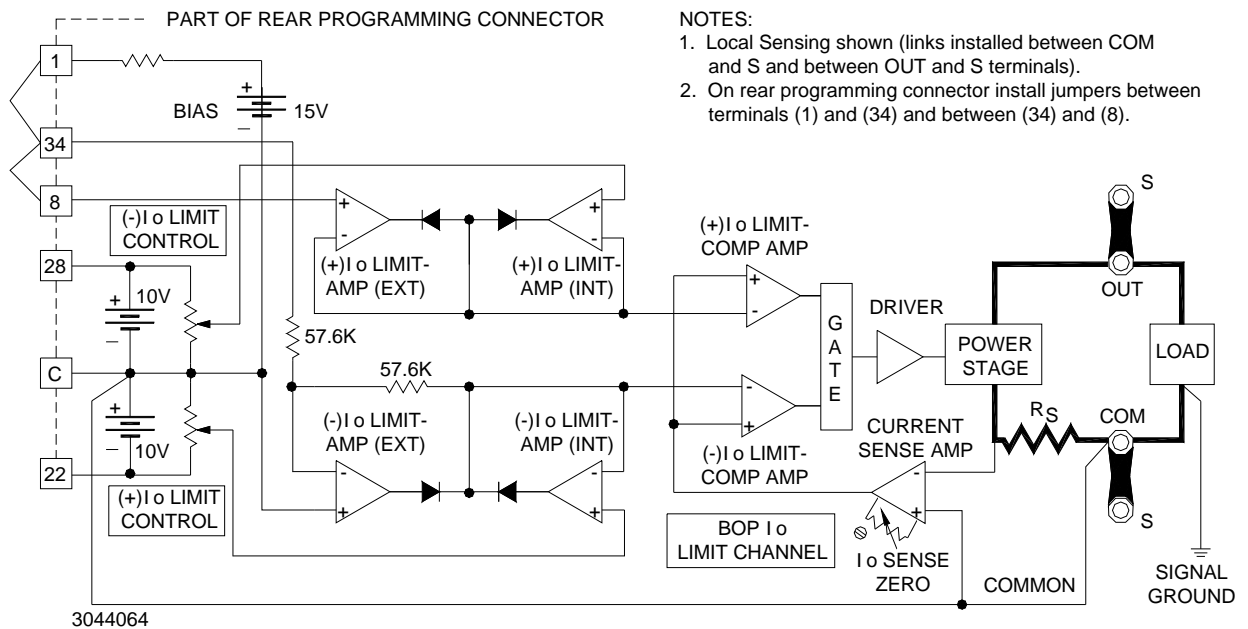

FIGURE 3-2. BOP (±) CURRENT LIMITING CIRCUIT (LOCAL CONTROL, LOCAL SENSING)
- (\pm) I_O Limit Circuits: See Figure 3-2 and PAR. 3.3.2 for local control.
Figure 3-2 shows the Current Limiting circuit configured for local sensing and local (front panel) control.